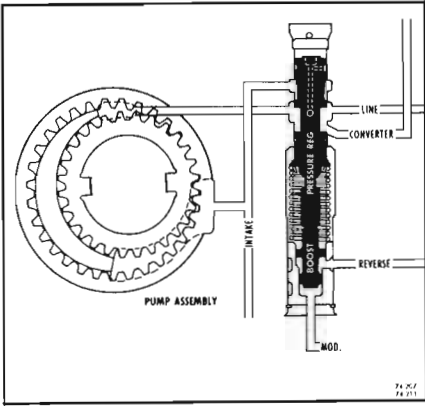

Figure 74-211—Pressure Regulator
a. Regulates line pressure according to a fixed spring force and forces controlled by modulator and reverse pressure. See Figure 74-211.